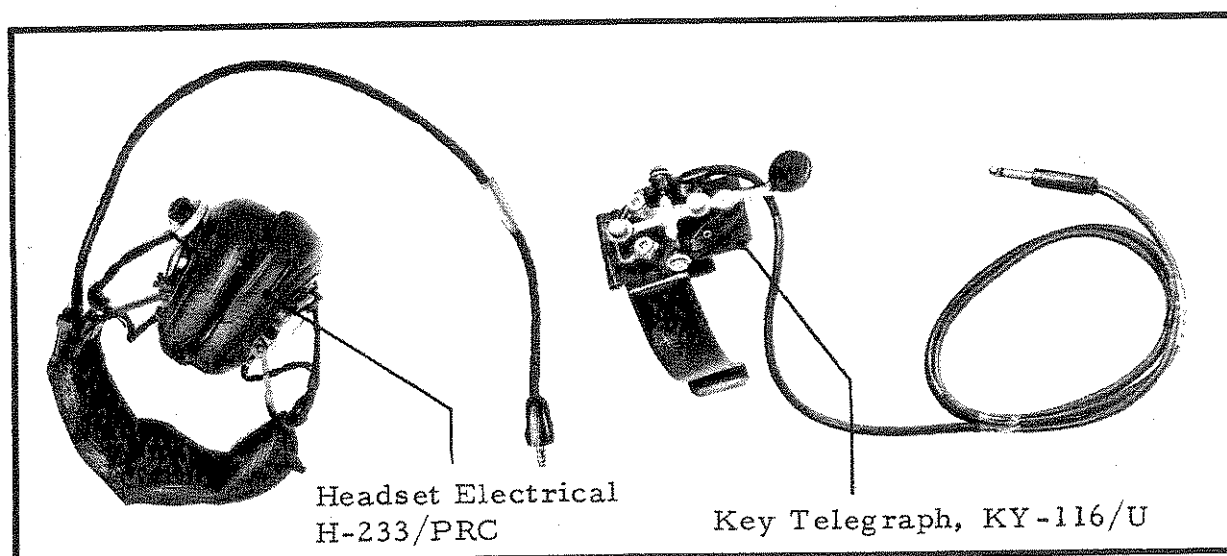

FIG 21
41. Headset Electrical, H-233/PRC and Key, Telegraph, KY-116/U. (Fig 21). These components provide for more comfortable operation of the ground station but they can only be connected to the receiver-transmitter via the Cable Assembly, Special Purpose, Electrical Branched, CX-F15. Both components incorporate a cable which terminates in a plug. Connection is made by inserting these plugs into the jacks fitted to the branched ends of the Cable CX-F15.